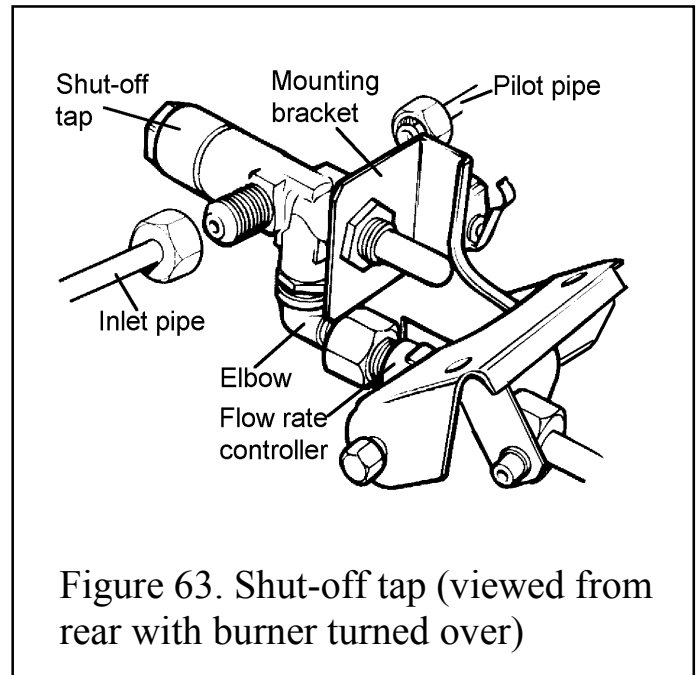

Figure 63. Shut-off tap (viewed from rear with burner turned over)
See figure 63.
2. Unscrew and remove the two ceramic support brackets from the top of the burner unit. This will avoid damage to the brackets and the worksurface (see figure 63) Turn the burner unit upside down. Detach the thermocouple and interrupter block from the tap - See section 16.8 paragraphs 2 - 4.